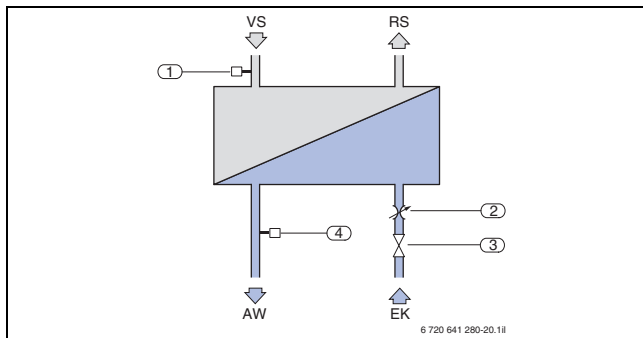

Fig. 54 Integral plate heat exchanger according to the instantaneous water heater principle
- DHW priority mode with the aid of a powerful heat exchanger in accordance with the instantaneous water heater principle (→ Fig. 54)